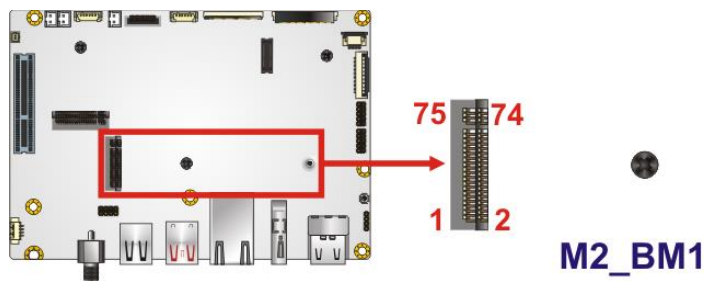

Figure 3-7: M.2 B/M Key Slot Location
- CN Type:** M.2 M key 2230/2280 slot
- CN Location:** See **Figure 3-7**